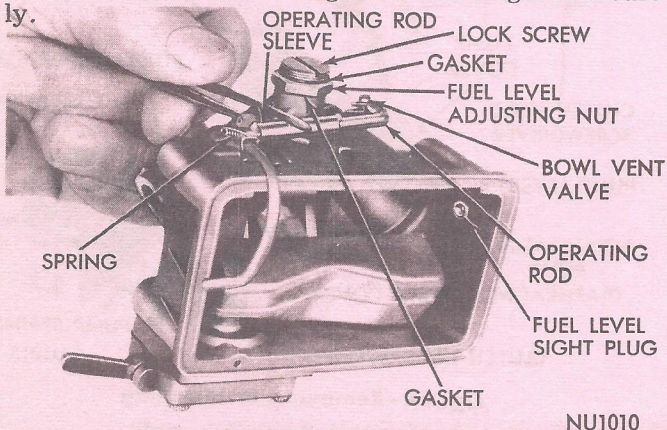

Fig. 11—Removing or Installing Bowl Vent Valve
(8) Install bowl vent valve on fuel bowl. Install attaching screw and tighten securely. (Be sure spring short loop enters hole in plate from underneath and long end hooked under rod (Fig. 11).